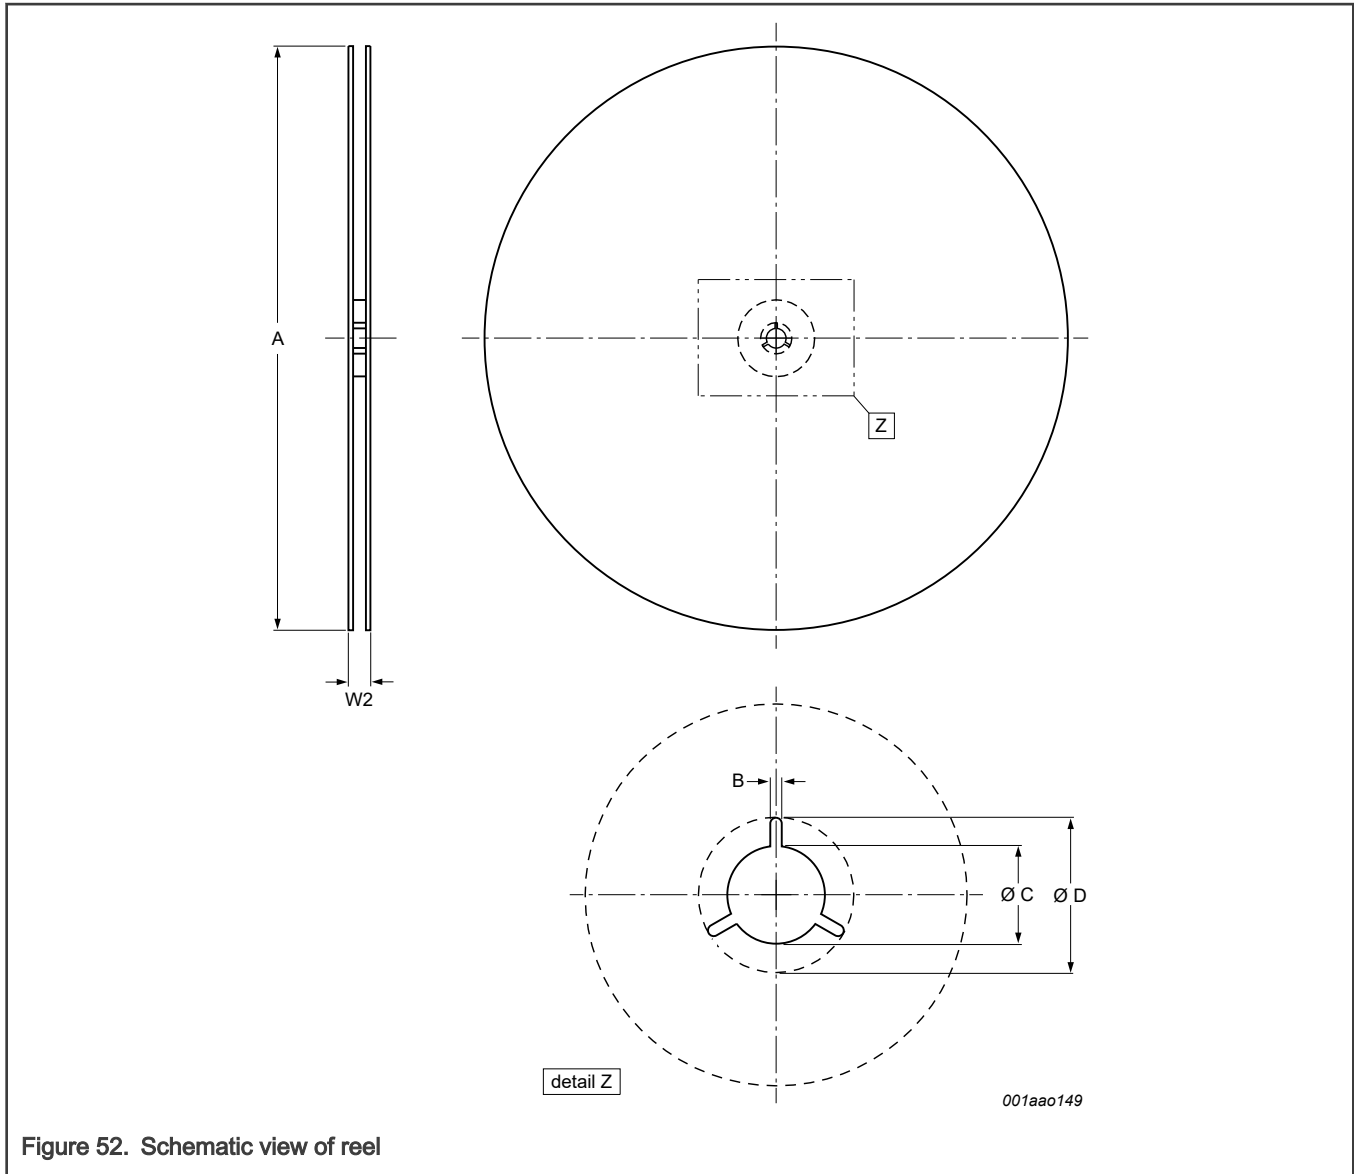

Figure 52. Schematic view of reel
- Reel dimensions (Figure 52 and Table 9).